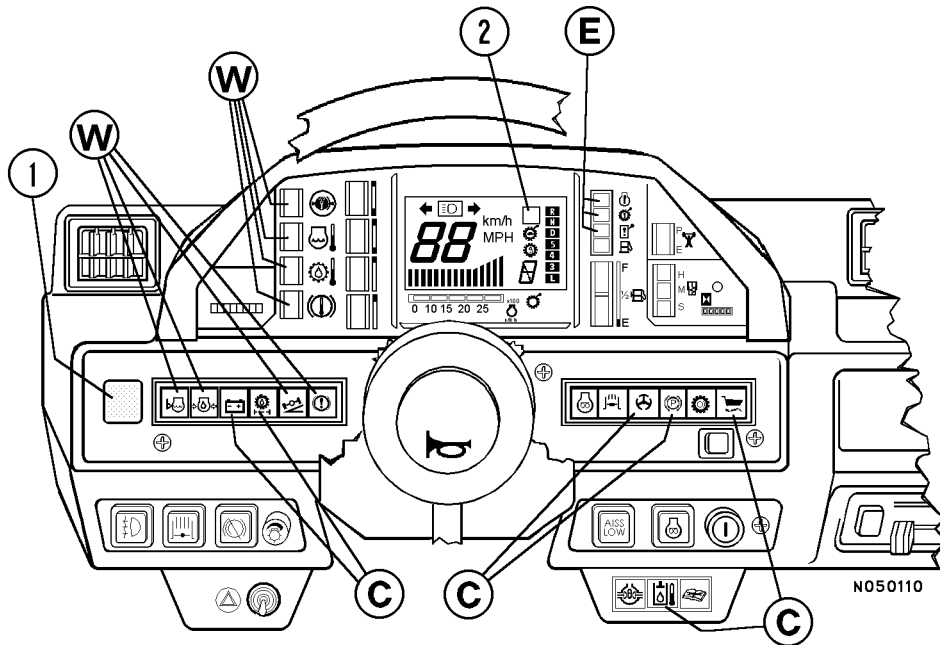

FIGURE 3-6. WARNING AND CAUTION LAMPS
1. The **Central Warning Lamp** is a Red lamp that will FLASH whenever any of the Monitor Lamps ("W", or "C", Figure 3-6) are illuminated, or if the Parking Brake is applied and the Transmission Shift Lever is not in the "N", (NEUTRAL) position. (Refer also to 54, Figure 3-8, later in this Section.)